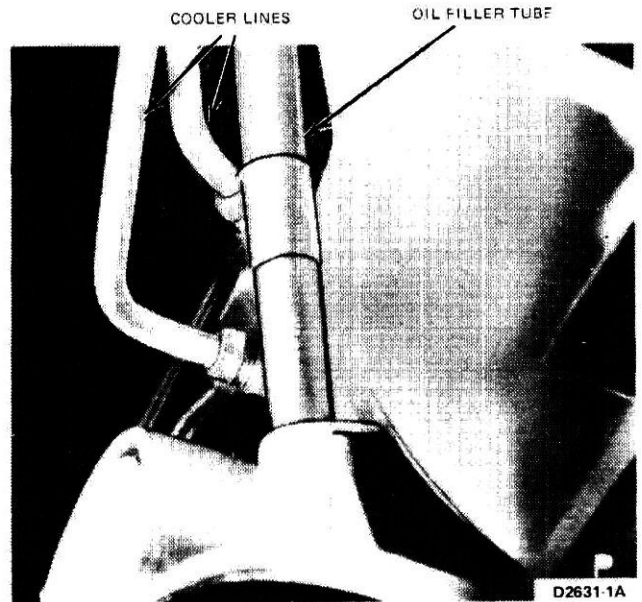

FIG. 6 Oil Cooler Lines and Oil Filler Tube
18. Disconnect the oil cooler lines at the transmission (Fig. 6). Plug all openings to keep out dirt.
20. Remove the transmission filler tube (Fig. 6).